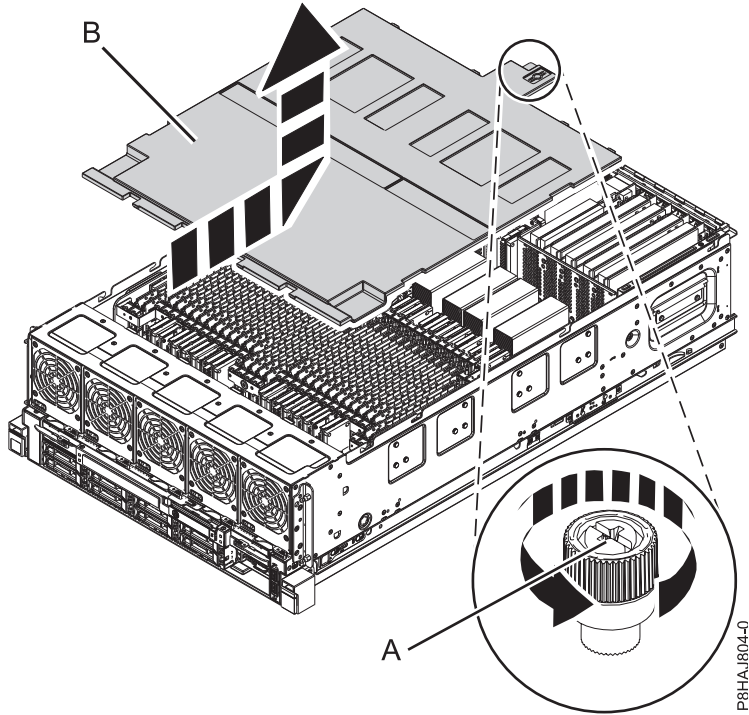

Figure 41. Removing the safety cover
2. Loosen the thumbscrew (A) located at the rear of the cover, by turning it in the direction shown in Figure 41 on page 48.
3. Slide the safety cover (B) toward the rear of the system. When the front of the cover has cleared the upper frame ledge, lift the cover up and off the system.